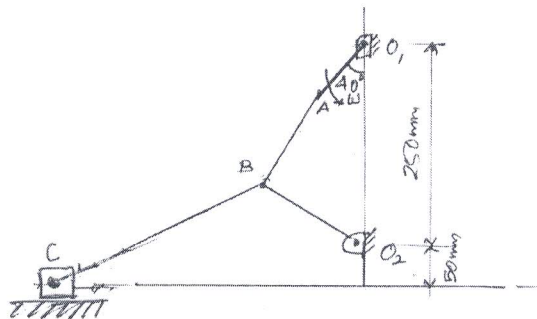

Fig.Q3
- 3 In a mechanism shown in Fig.Q3, determine the acceleration of slider C, given $O_1A = 100$ mm, $AB = 105$ mm, $O_1B = 150$ mm and $BC = 300$ mm. Crank O_1A rotates at 180 rpm. (16 Marks)